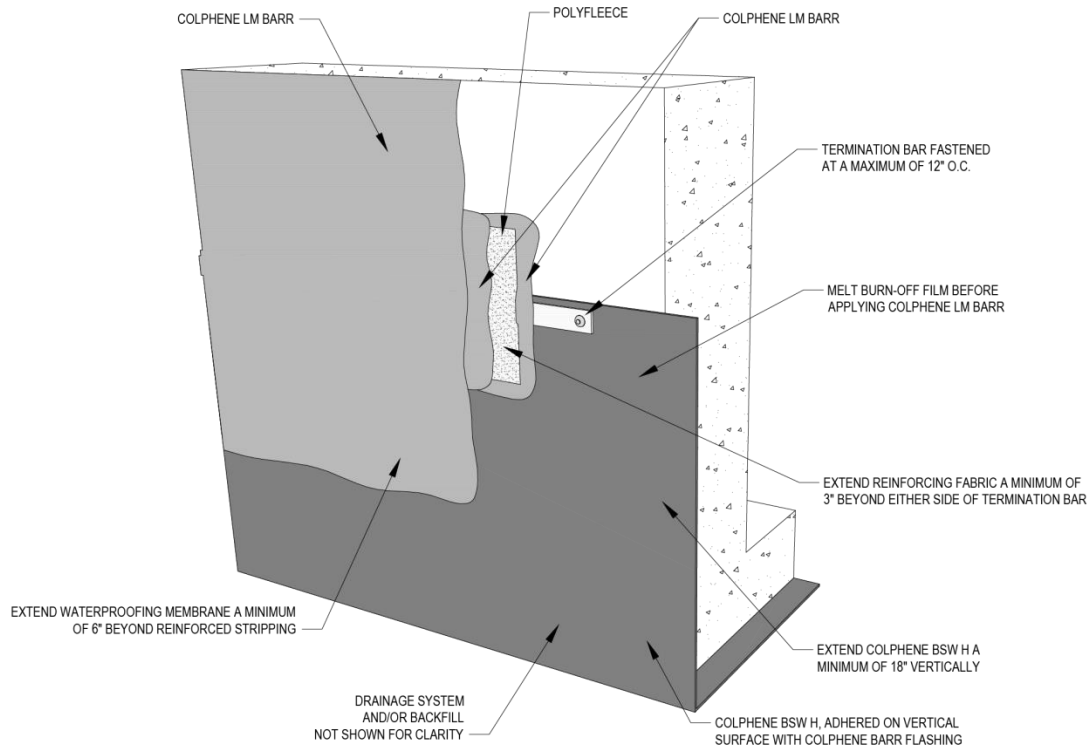

Figure 4.2a Non-reinforced Tie-In to Blindsided Waterproofing Membrane
- COLPHENE® LM BARR waterproofing materials used for vertical, positive-side foundation walls may be applied at tie-ins to SOPREMA walls and waterproofing materials. Refer to Figures 4.2a and 4.2b.